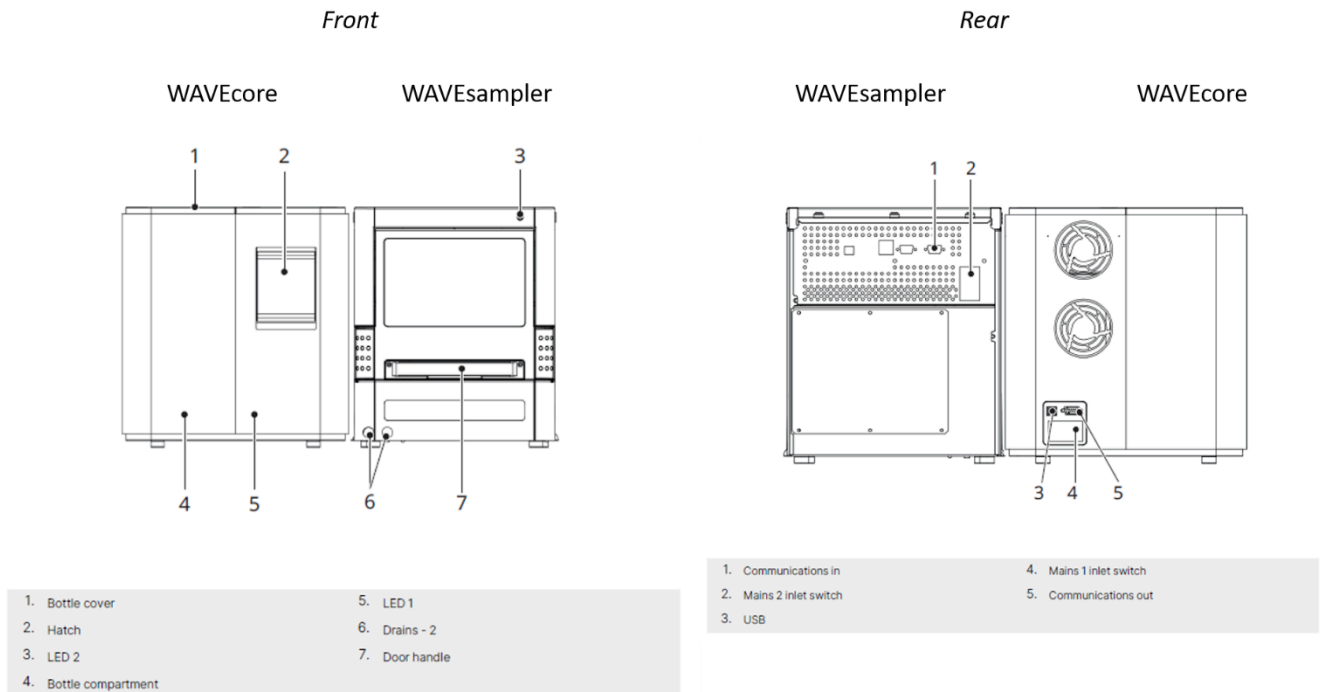

Figure 1. Front and rear of the instrument. ON/OFF marked by numbers 2 and 4 (rear).
- Turn on the WAVEsampler, then the WAVEcore (buttons on the rear, see Figure 1).